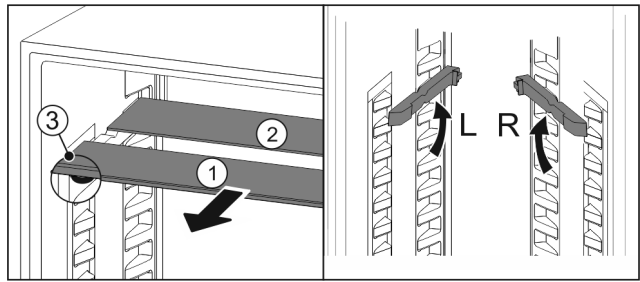

Fig. 174
- ▶ Pull the glass panels out Fig. 174 (1) from the front, one at a time.
- ▶ The glass panel Fig. 174 (1) and trim strip are at the front.
- ▶ The stops Fig. 174 (3) point down.